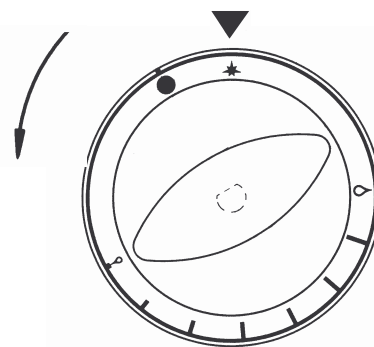

Fig. 1
- Changing the burner nozzle (Fig. 1):
To light the burner, connected to the cock, push the knob until it will go no further and then turn it in the direction of the arrow, round to the ★ "PILOT" position (fig. 1).
(Fig. 1).